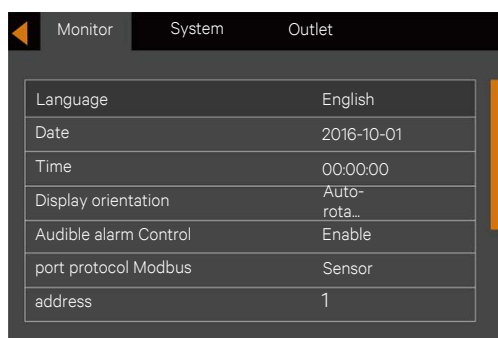

Figure 5-12 Language selection
3. Press the key to highlight the language, see Figure 5-12.